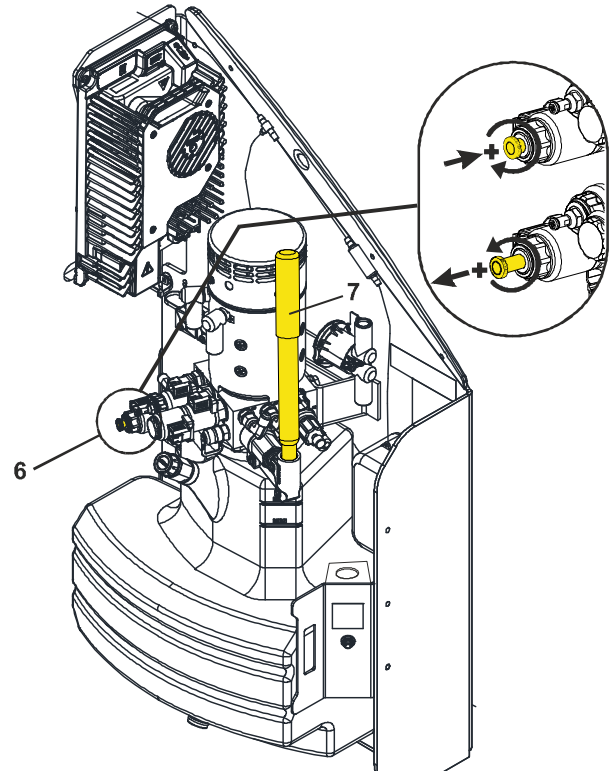

Figure 3-8. Manual Swinging Operating Devices
- a control valve **(6)** located on the pump/motor assembly. (Refer to Figure 3-8.).
- a hand pump **(7)**, also located on the pump/motor assembly. (Refer to Figure 3-8.).